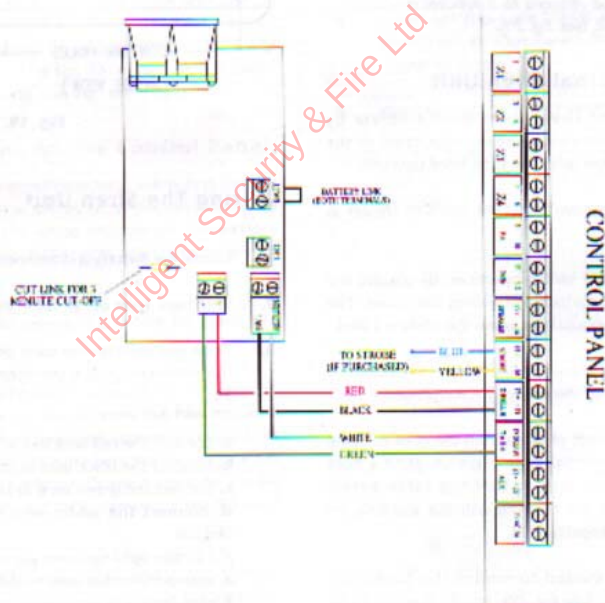

Fig 20.
4. Twist and double over each end evenly, then connect to the terminals as shown in fig. 20.
6. At the siren housing, connect the battery link to both BATT terminals (see fig. 20)